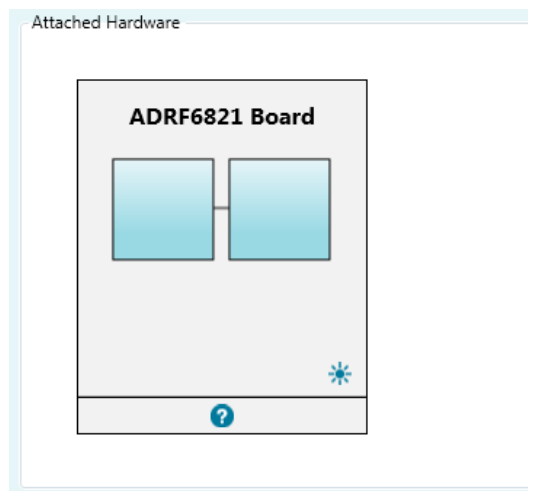
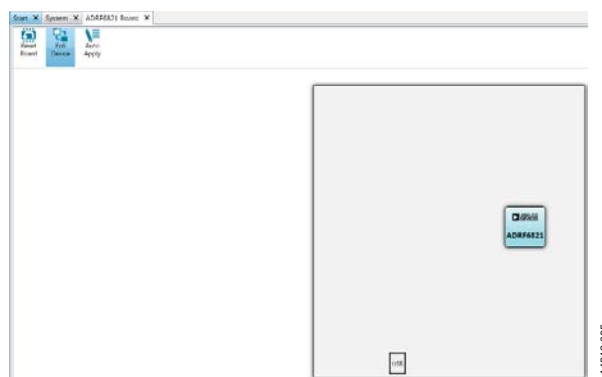

Figure 4. ACE Software Start Page when the ADRF6821 Connects
Figure 5. **ADRF6821 Board** Tab View
2. When the software main window opens, the software automatically detects the ADRF6821-EVALZ. Double-click the **ADRF6821 Board** icon shown in Figure 4. This brings the user to **ADRF6821 Board** tab (see Figure 5).